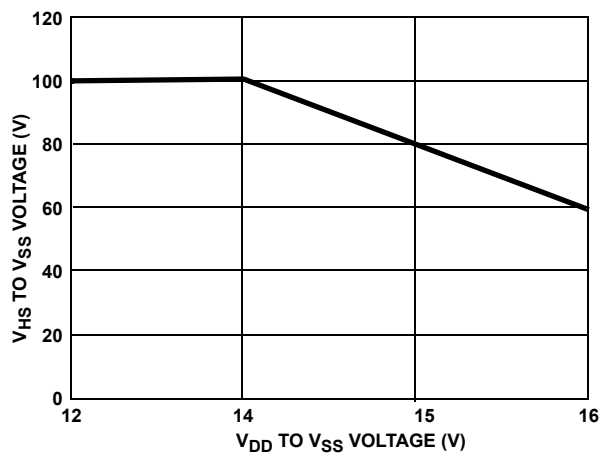

FIGURE 16.  $V_{HS}$  VOLTAGE vs  $V_{DD}$  VOLTAGE
- The HIP2100 is capable of derated operation at supply voltages exceeding 14V. Figure 16 on page 9 shows the high-side voltage derating curve for this mode of operation.